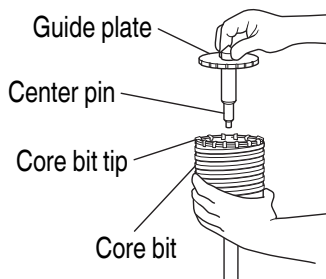

Fig. 35
- (3) Insert the center pin into the guide plate until it stops.
- (4) Engage the guide plate with the core bit, and turn the guide plate to the left or the right so that it does not fall even if it faces downward (**Fig. 35**).